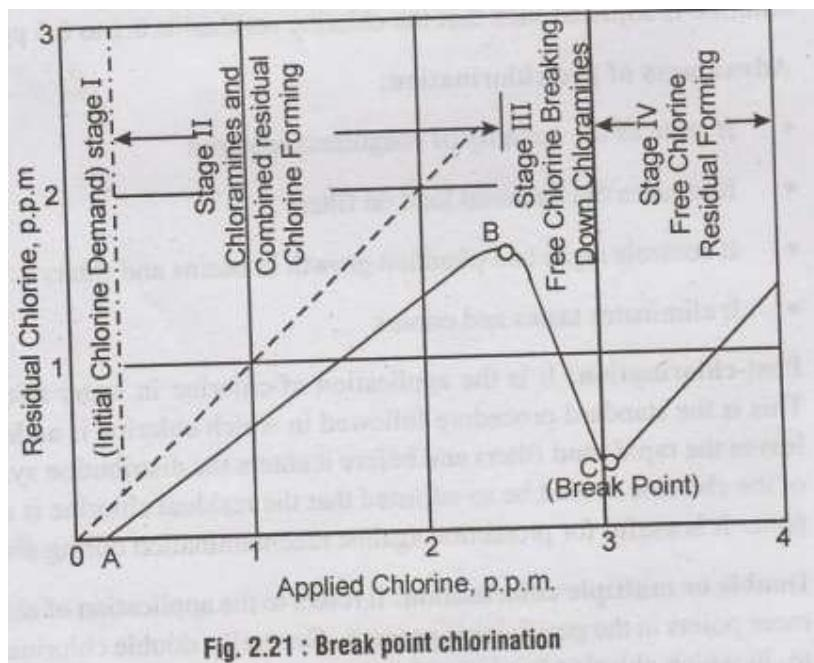

Fig. 2.21 : Break point chlorination
When chlorine is added to pure water which has no organic impurities But, water generally has some impurities or chlorine demand and as such results in curve ABC, shown in figure 2.21. When chlorine is added to the water, it first reacts with the ammonia present in the water, so as to form chloramines. The residual chlorine curve (AB) therefore increases with the applied chlorine dosage but shall be slightly less than the applied chlorine as some chlorine is consumed for killing the bacteria. If the addition of chlorine is continued abizorby beyond the point B, chlorine oxidizes the organic impurities in water and therefore, the residual chlorine curve falls down, (BC). This point "C" is called the break point, as any chlorine that is added to water beyond this point, breaks through the water and totally appears as residual chlorine. The addition of chlorine beyond break point is called break point chlorination.